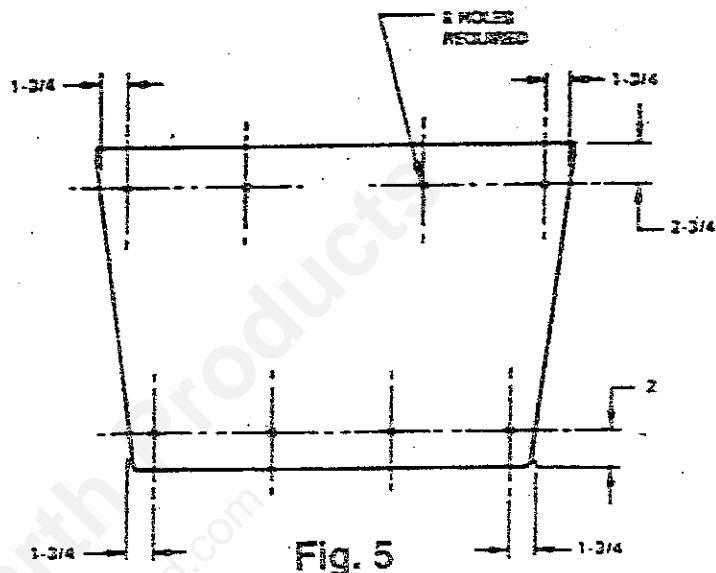

Fig. 5
3. Position the leg assembly on the bottom of the heater as shown in Fig. 5. Mark the hole locations using the leg assembly holes as locators. Using an electric drill and the drill bit (7/32" dia.) provided, drill (8) holes in the bottom of the cabinet in the locations shown in Fig. 5.
4. Mount the four legs (leg covers towards front of heater) using the (8) 1/4-20 self-threading screws provided, with and adjustable or 3/8" wrench.